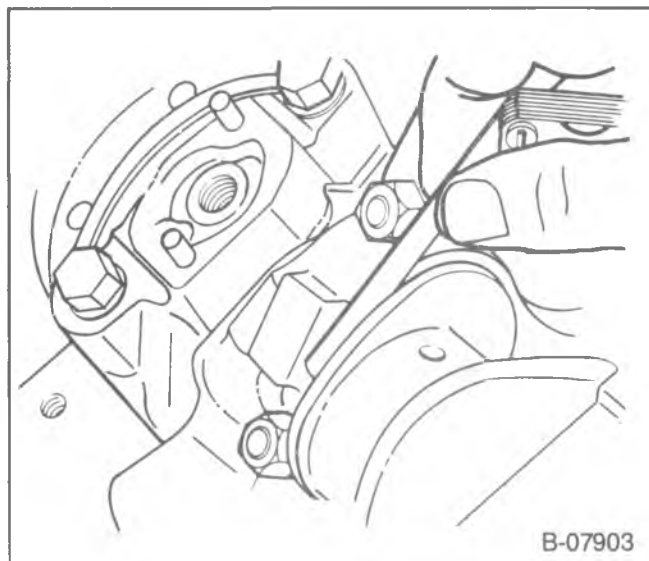

Figure 32—Measuring Connecting Rod Side Clearance
- Connecting rod side clearance. Use a feeler gage between the connecting rod and crankshaft (figure 32). The correct clearance is 0.006-0.014-inch.